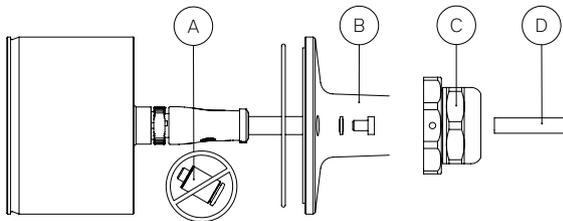

Figure 7
**!** For mounting the camera head to the holder of the flex arm mount (Fig. 7-B), the plug-in connection for the sealing air (Fig. 7-A) on the rear of the camera head will need to be removed. It is outfitted with an internal hexagon drive. The sealing air tube (Fig. 7-D) is inserted into the 6 mm hole of the sealing in the cable gland (Fig. 7-C) for all versions of the flex arm mount. An insertion depth of approx. 20–30 mm is sufficient; the sealing air tube does not have to be pulled through the flex arm mount to the camera head. The sealing air flows freely through the entire flex arm mount to the camera head. The sealing air tube is fixed in place by clamping the cable gland closed.